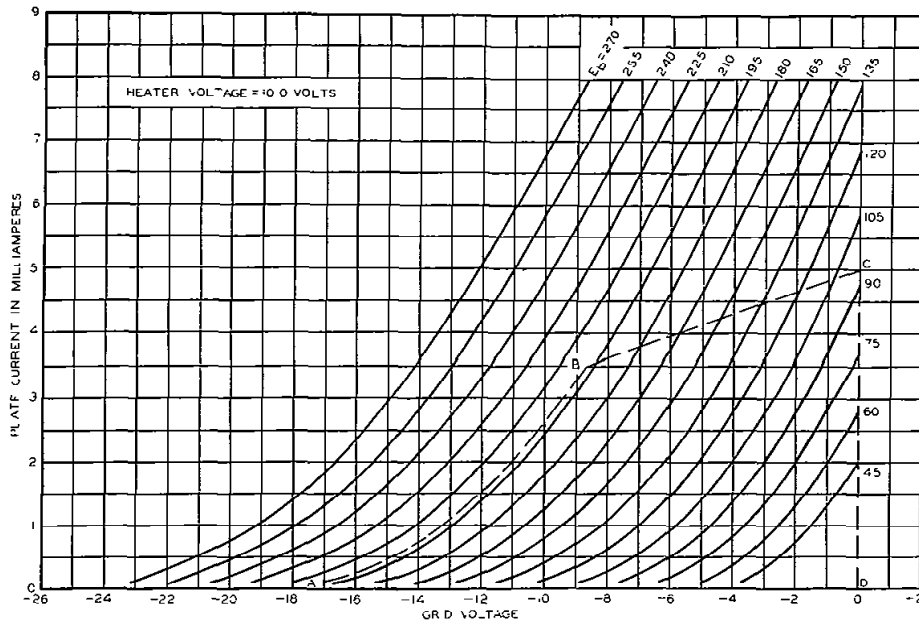
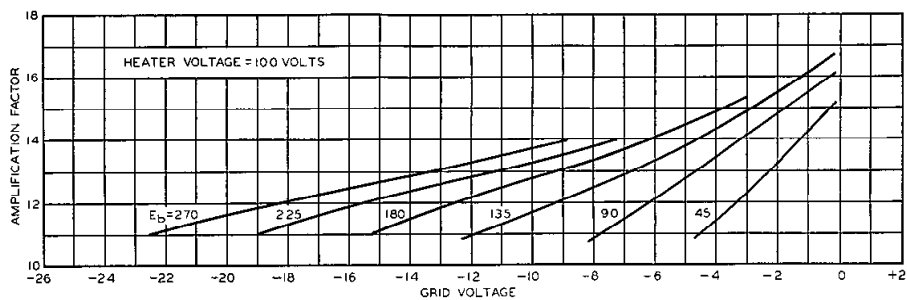
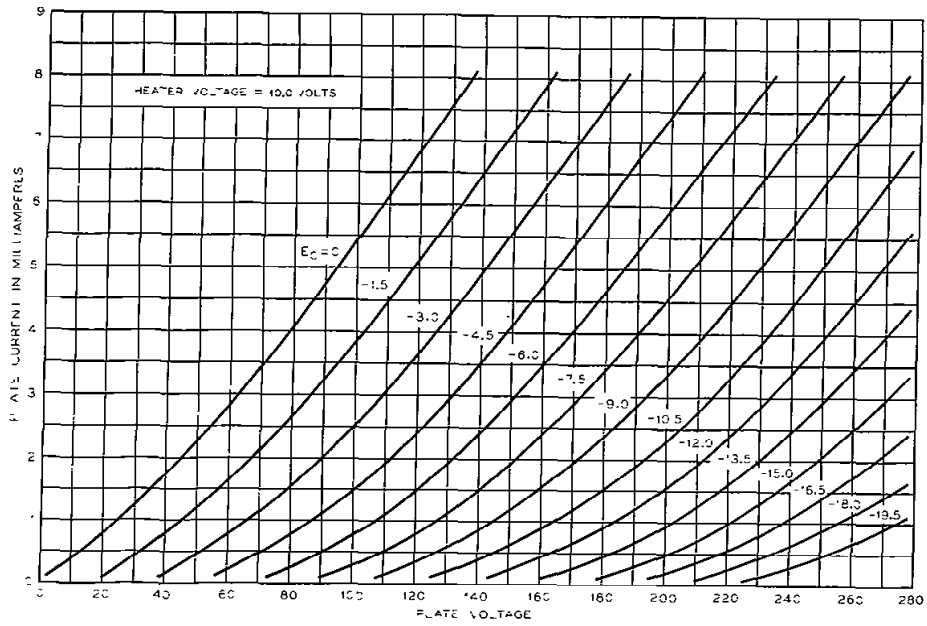

FIG. 3
FIG. 4
FIG. 7
**Triode Characteristics**—Typical curves showing triode plate current as a function of grid voltage for several values of plate voltage are shown in Figure 3. Corresponding amplification factor, plate resistance and transconductance characteristics are given in Figures 4, 5 and 6 respectively. Figure 7 shows plate current as a function of plate voltage for several values of grid voltage.
Permissible operating plate and grid voltages are included within the area, ABCD, in Figure 3. Amplification factor, plate resistance, transconductance and performance data for a number of typical operating conditions are given in the table. Recommended conditions or others of no greater severity should be selected in preference to maximum conditions wherever possible. The life of the tube at maximum operating conditions will be shorter than at less severe conditions.